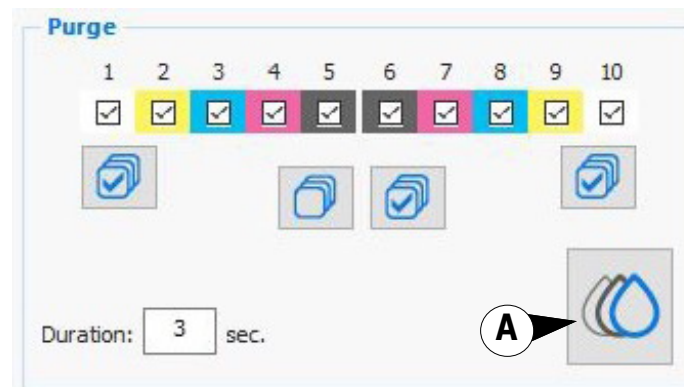

Figure 4-1 Print Heads Maintenance, Purge options, 3 second duration
3. Click the **Purge** button to perform a three second **Ink Purge**, Figure 4-1.
11. Click the **Purge** button to perform a three second ink purge, Figure 4-1.